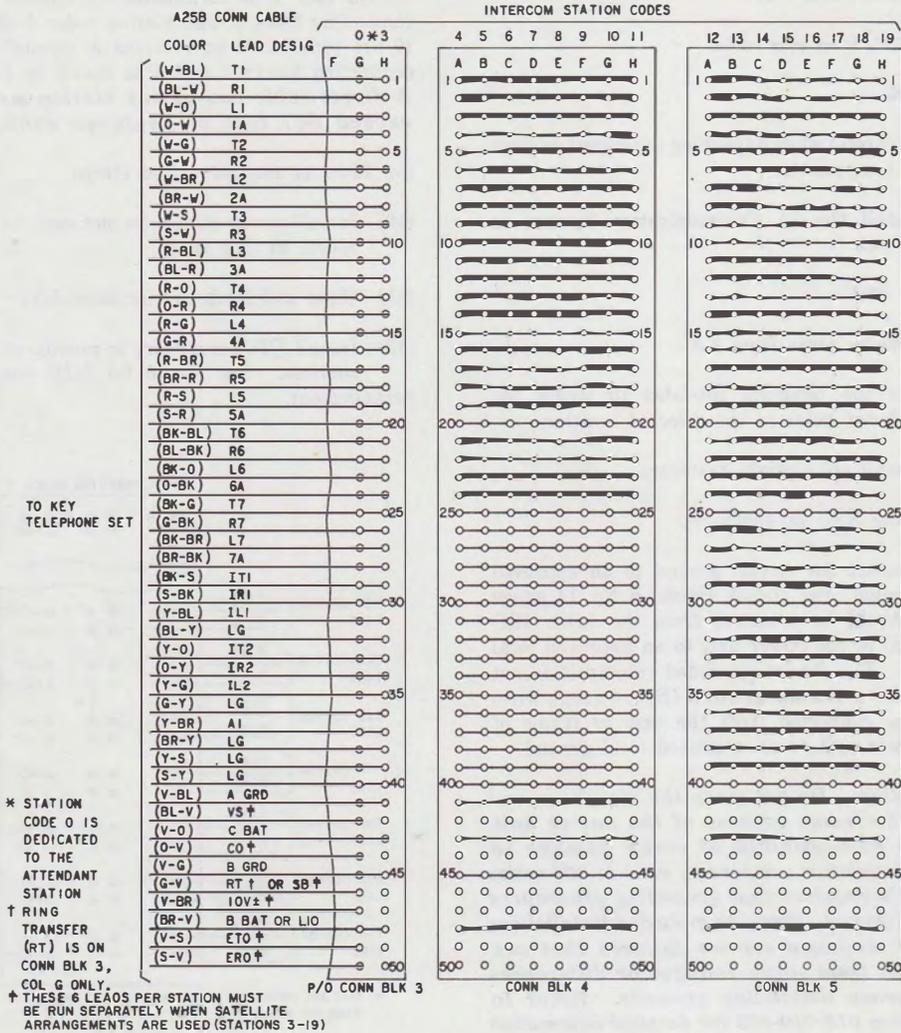

Fig. 26—Station Connections
- (8) Terminate the station cables. Cut down the A25B connector cables on connecting blocks 3, 4, and 5 as shown in Fig. 26. Intercom station code 0 (attendant station) is terminated on column G of connecting block 3. Intercom
station code 3 is terminated on column H of connecting block 3, and station codes 4 through 19 are terminated on columns A through H on connecting blocks 4 and 5 as shown in Fig. 26. **A direct cable run to any station may not exceed 667 feet of 24-gauge cable.**
- One 25-pair cable to provide the 44 leads common to all stations (Fig. 26).
Provide six additional leads per satellite station (Fig. 26)